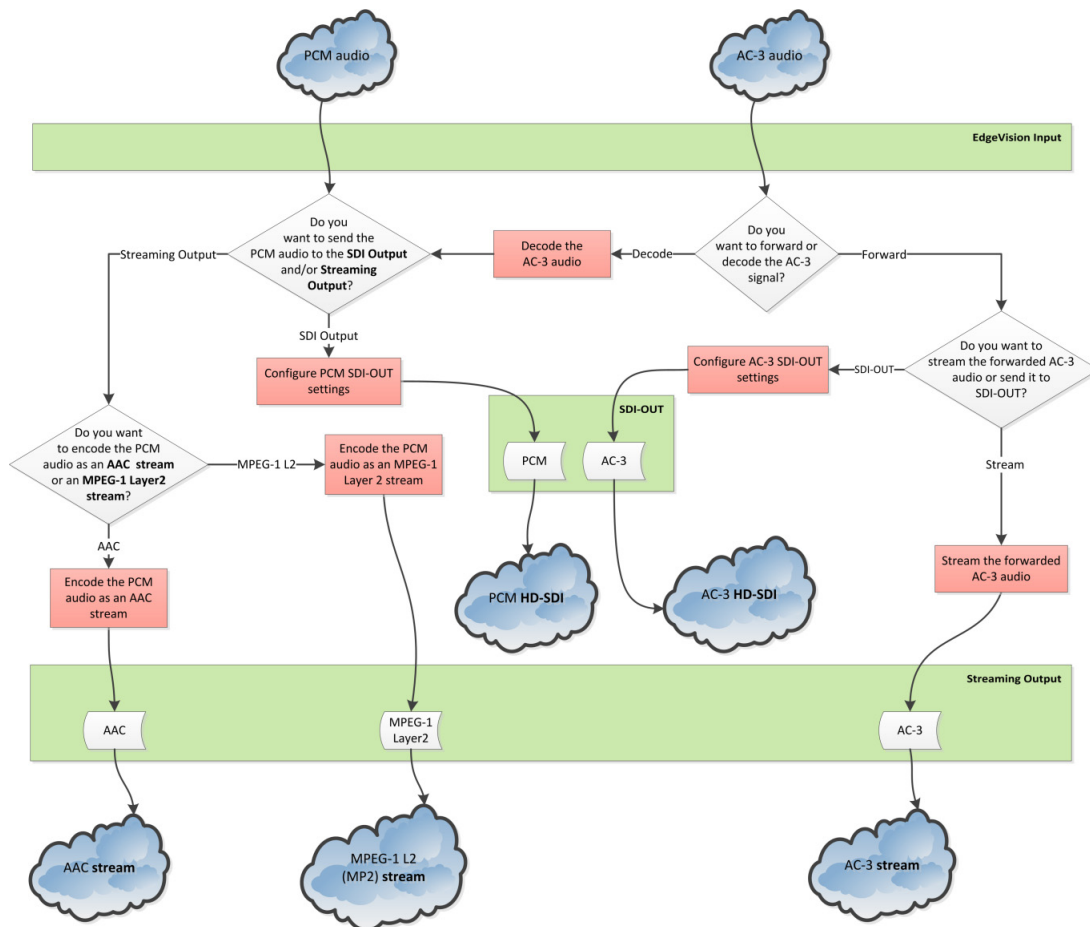

Figure 4-3 EdgeVision audio processing workflow and signalflow (see Table 4-5)
Table 4-5: EdgeVision audio processing user tasks (see Figure 4-3)
Table 4-5: EdgeVision audio processing user tasks (see see Figure 4-3) (*Continued*)
1. This list of tasks is not necessarily sequentially ordered. Consult see Figure 4-3 for the supported context.